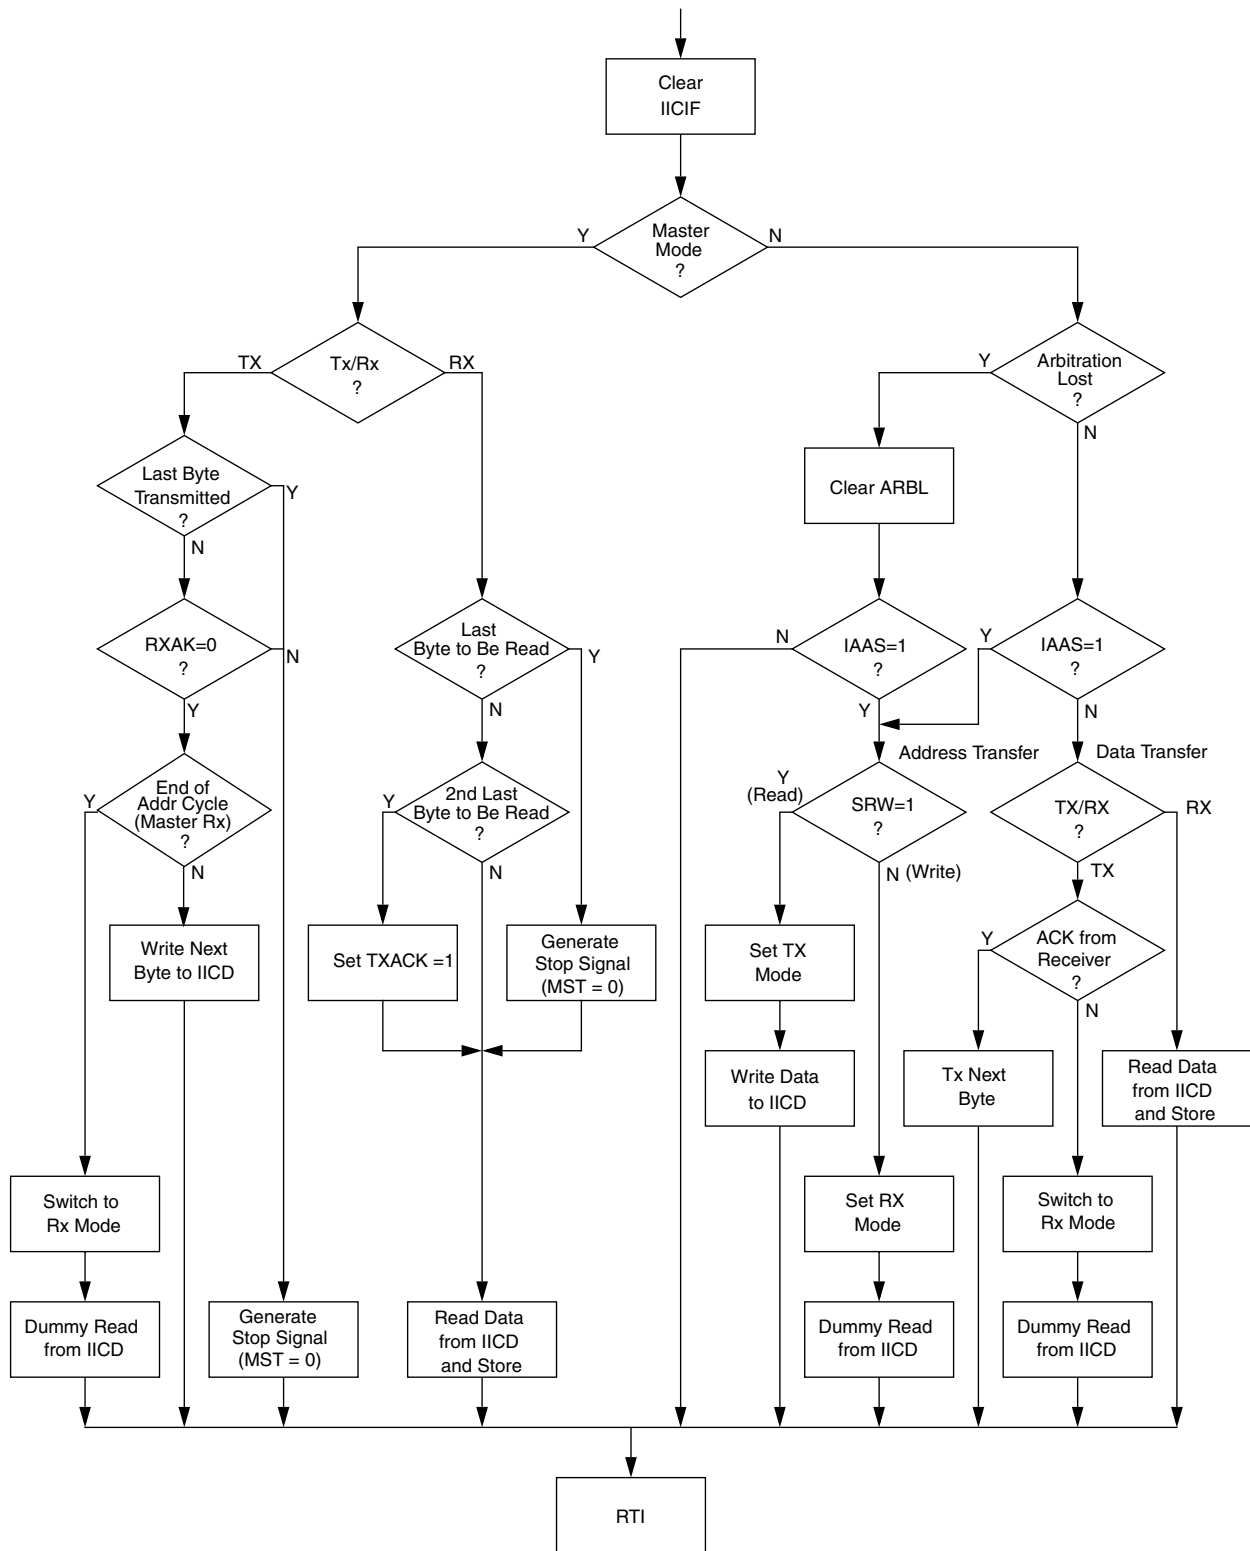

Figure 14-11. Typical IIC Interrupt Routine
4. Initialize RAM variables used to achieve the routine shown in Figure 14-11
The routine shown in Figure 14-11 can handle both master and slave IIC operations. For slave operation, an incoming IIC message that contains the proper address will begin IIC communication. For master operation, communication must be initiated by writing to the IICD register.